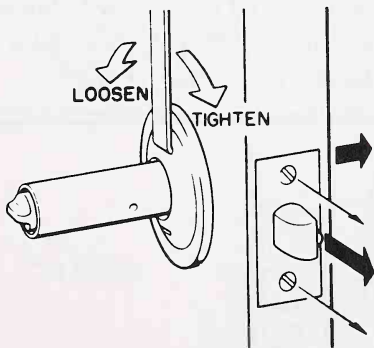

Fig. 18-10.
3. Place the wrench into the slot in the rose liner and rotate clockwise until tight on the door. If the lockset is extremely loose, tighten the outside rose and inside liner *equally* (Fig. 18-10).